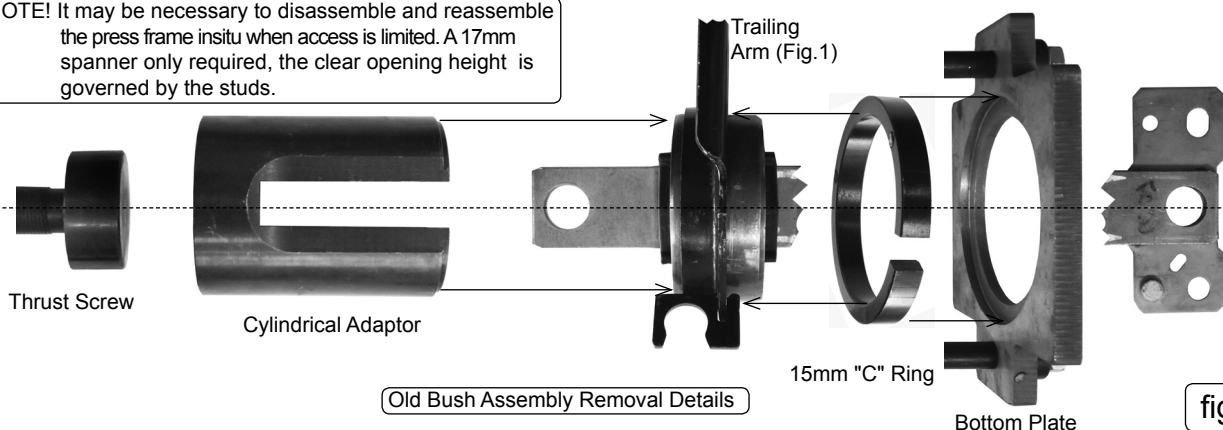

fig.13
5.1.7. Two people are now recommended, with one continuing to support the press frame and the other positioning the adaptor (Fig.12), stepped end inside the bush sleeve. The shoulder of the stepped end will offer thrust to the steel bush sleeve. Please note for the removal of the bush, 360° orientation of the adaptor is not important and the side 'depth control legs' are not fitted. The second person can now wind in the thrust screw ensuring concentricity and squareness of both the press frame and the cylindrical adaptor. With a 16mm socket increase the torque and observe the bush sleeve projection from the housing, through to removal. **DO NOT EXCEED 180NM, IF THIS OCCURS, STOP IMMEDIATELY AND CHECK ALIGNMENTS.** There may be some resistance initially. Continued support to the press is required throughout, especially when the bush is removed from the housing as the bush is then free to fall. Remove the old bush, the press frame and prepare details for insertion of a new bush assembly. An "exploded" view (Fig.13) supports actions shown in (Fig.8) through (Fig.12)